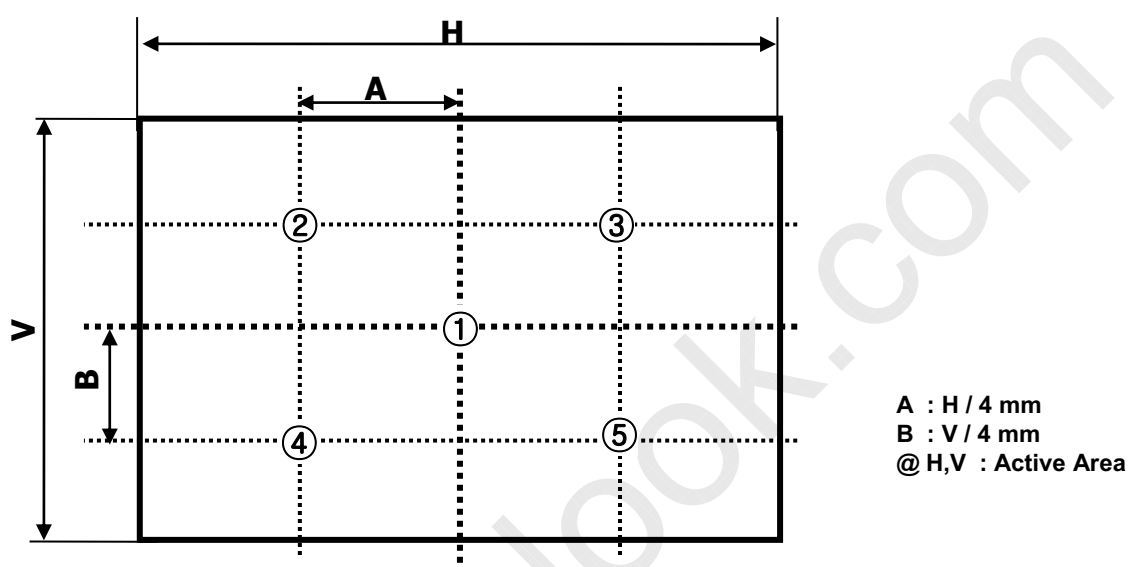

FIG. 2 5 Points for Luminance Measure
- Surface luminance are determined after the unit has been 'ON' and 1 Hour after lighting the backlight in a dark environment at $25 \pm 2^\circ\text{C}$. Surface luminance is the luminance value at center 1-point across the LCD surface 50cm from the surface with all pixels displaying white. For more information see the FIG. 2.
For more information, see the FIG. 2.